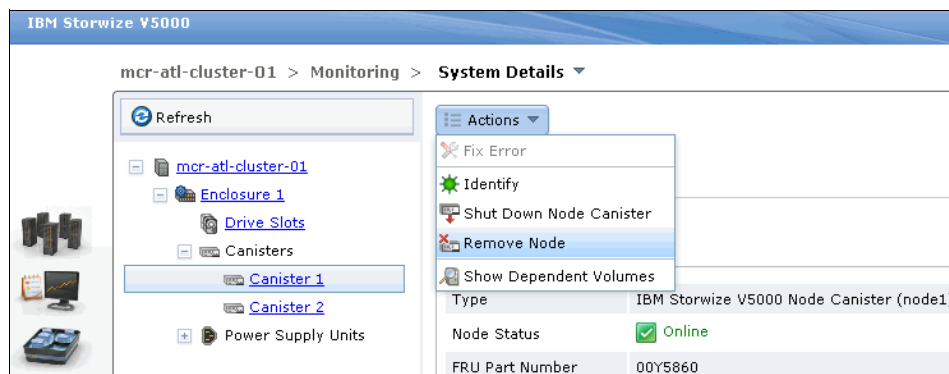

Figure 12-37 Remove the non-config node from cluster
2. In the management GUI, select **System Details** and select the canister that contains the node you want to upgrade next. As shown in Figure 12-37, select **Remove Node** in the Action menu, which shows you a Health Status alert.